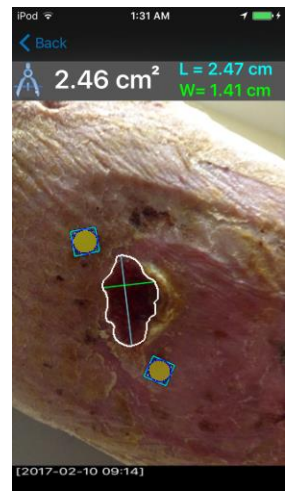
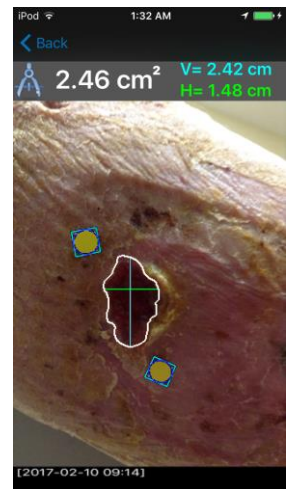

Figure 22: Length & Width
Figure 23: Vertical & Horizontal
1. Ensure the Standard Imaging Mode wound image is captured with 2 MolecuLight WoundStickers (P/N 1266) placed close to and within the plane of the wound. Measurement accuracy will be degraded if the MolecuLight WoundStickers are off plane, in which case stickers may appear elliptical. For optimal results, ensure the MolecuLight WoundSticker placement is at the 1 and 7 o'clock position or at the 11 and 5 o'clock position when holding the MolecuLight *i:X* in a portrait (vertical) orientation, as depicted in Figure 22 and Figure 23.
1. Ensure the Standard Imaging Mode wound image is captured with 2 MolecuLight WoundStickers (P/N 1266) placed close to and within the plane of the wound. Measurement accuracy will be degraded if the MolecuLight WoundStickers are off plane, in which case stickers may appear elliptical. For optimal results, ensure the MolecuLight WoundSticker placement is at the 1 and 7 o'clock position or at the 11 and 5 o'clock position when holding the MolecuLight i:X in a portrait (vertical) orientation, as depicted in Figure 22 and Figure 23.